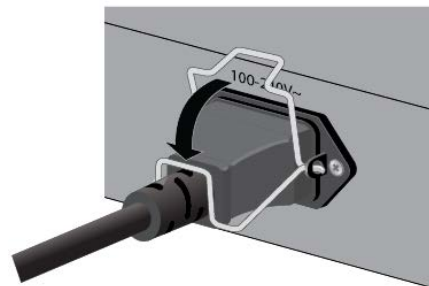

Figure 89. Lowering the Power Cord Retaining Clip
3. Lower the power cord retaining clip to secure the cords to the switch. Refer to Figure 89.
2. Lower the retaining hooks to secure the power cords to the switches. Refer to Figure 89 on page 165.